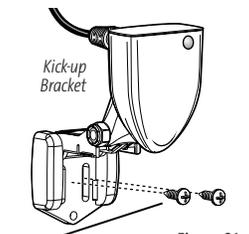

Figure 21
2. Align the transducer assembly with the drilled holes in the transom (Figure 21).
- 4a. If you are using the Two Piece Kick-up mounting bracket, force the pivot to the Up position to gain access to the mounting screws. Make sure that the transducer location has not changed, then hand tighten the two mounting screws (Figure 21). Snap the pivot back down.
- 4b. If you are using the Single Piece mounting bracket, make sure that the transducer location has not changed, then hand tighten the two mounting screws (Figure 21).